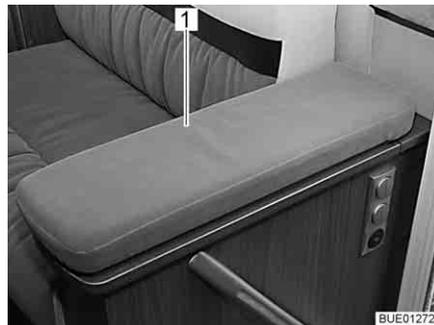
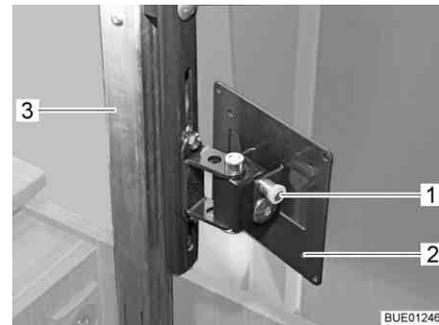

Fig. 54 TV compartment
Fig. 55 Lifting mechanism
- Lightly depress the cover (Fig. 54,1) of the TV compartment in the centre. The extension column (Fig. 55,3) is released and starts to move upwards.
- Pull the release knob (Fig. 55,1) and swivel holder (Fig. 55,2) with flat screen to the desired position.
- Turn the flat screen back into the original position until holder (Fig. 55,2) engages in the lock.
- Press the middle of the cover (Fig. 54,1) downwards against the resistance of the extension column (Fig. 55,3) until the locking mechanism engages.